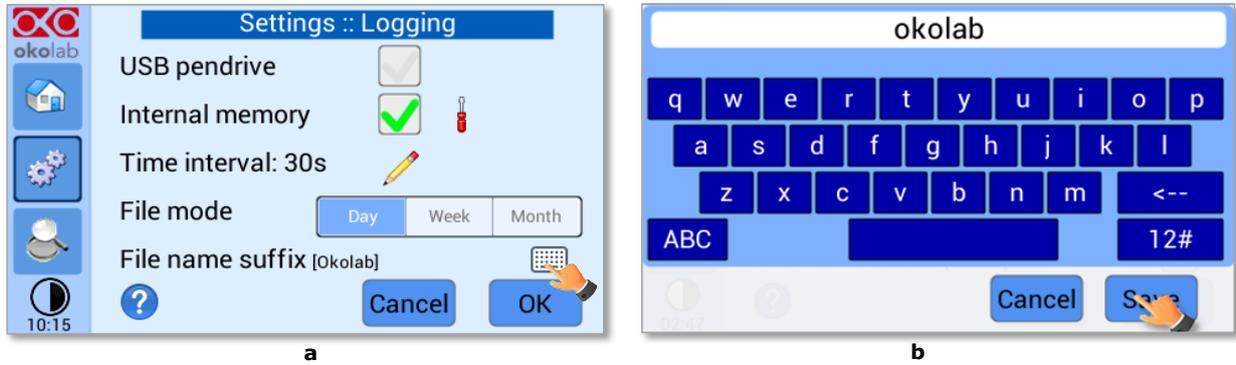
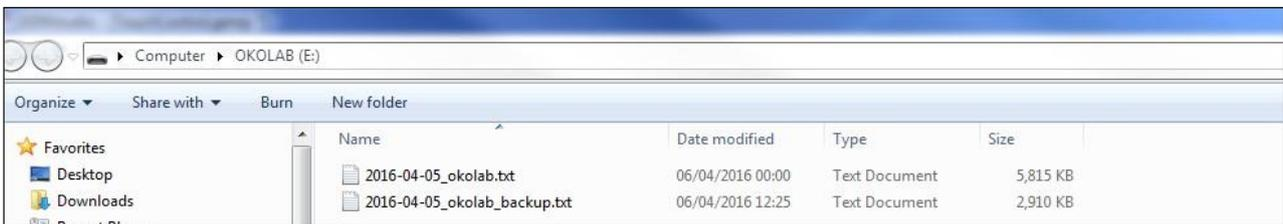

Figure 64. Data Logging. How to define the suffix for the downloaded files (a – b).
Figure 65. Downloaded files on the pen drive.
5. Write the file name suffix to be reported in the downloaded files by pressing on the keyboard icon , see Figure 64 a.
6. Press Save, see Figure 64 b.
Tip ► With the selections as in Figure 63 and in Figure 64, the data will be downloaded on the USB drive as shown in Figure 65.